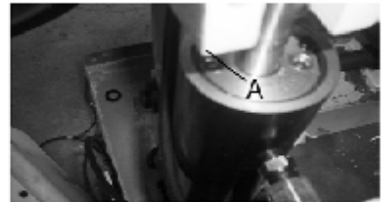
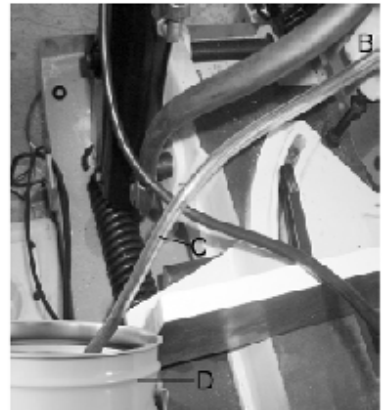

Fig.22
Fig.23
2. Remove plug (A) Fig. 22. from the top of the hydraulic system and replace with a suitable hose fitting (B) Fig. 23. connect a clear hose (C) to the fitting, as shown.
3. Put approximately one quart of Mobil-DTE (light) oil, available in one-quart cans into a container (D) Fig. 23 place hose (C) in the container (D) making sure end of hose is submerged in the oil. Raise and lower saw arm until the bubbles disappear from inside the clear hose (C).
4. Remove hose fitting (B) Fig. 23. and replace plug (A) Fig. 22.